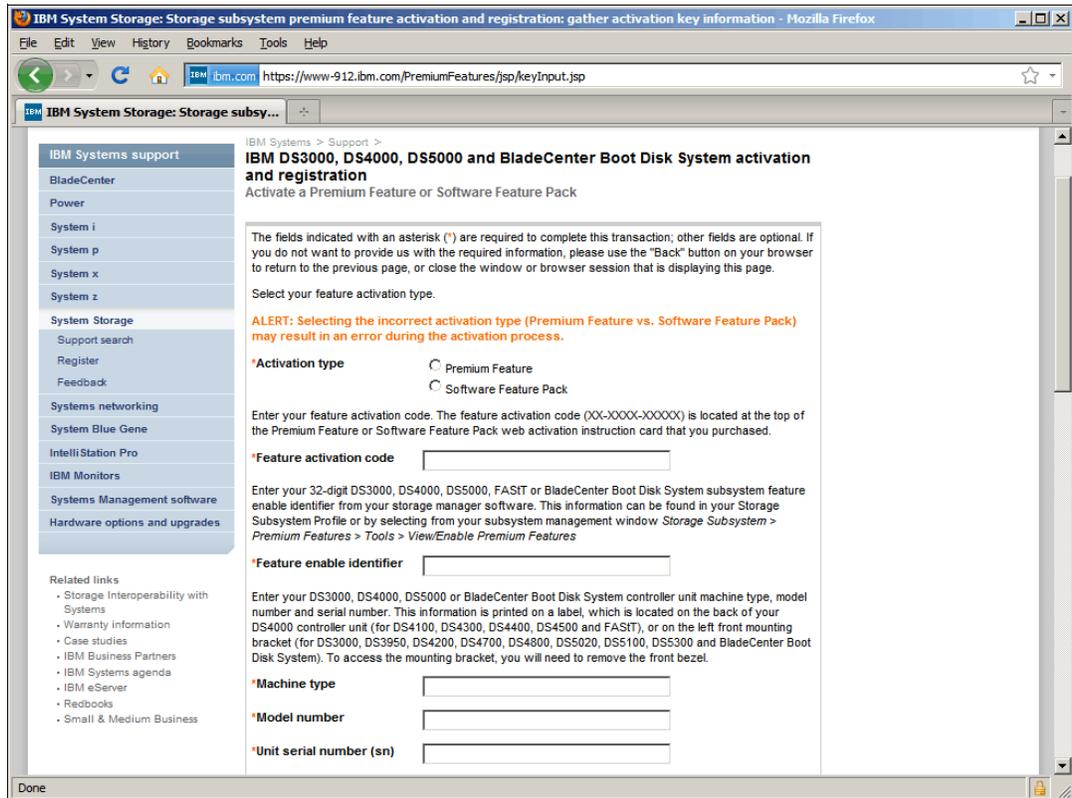

Figure 1-3 Premium feature registration page
3. Complete the information presented in the next window, as shown in Figure 1-3: